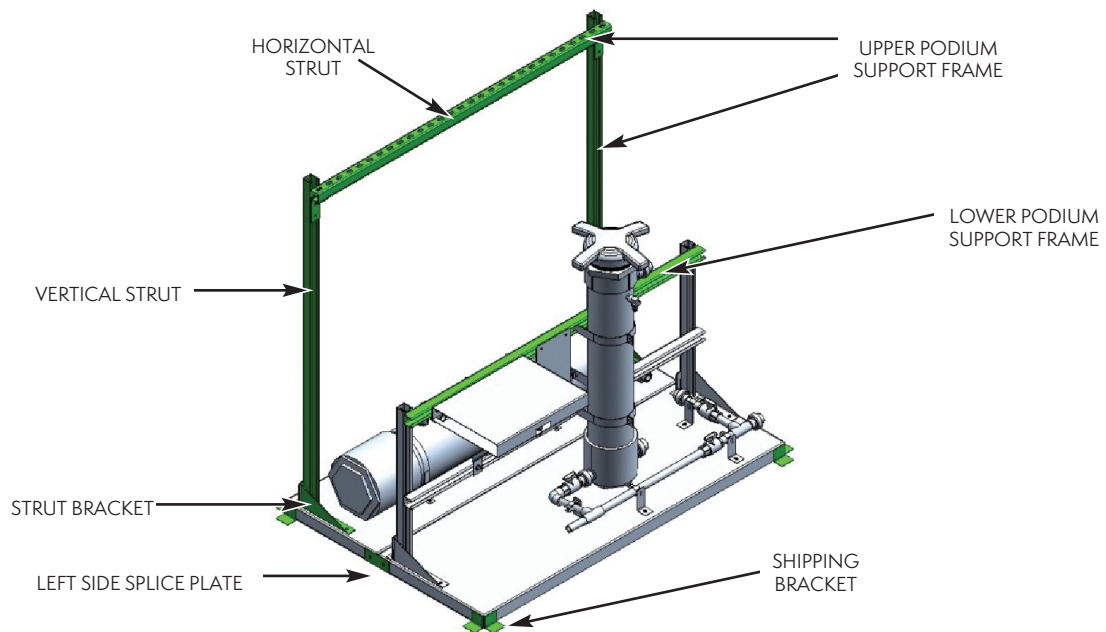

Figure 4 – Assemble **BCF-NX** and Inhibitor Storage Modules
- 2.5 Set the Inhibitor Storage Module in desired location. Secure (2) Vertical Struts to the (2) Strut Brackets using the supplied hardware. See Figures 4 and 5.
- 2.6 Attach the Horizontal Strut, open side down, to the supports using the supplied hardware to complete the Upper Podium Support Frame. See Figures 4 and 5.
- 2.7 Set the **BCF-NX** Module in front of the Inhibitor Storage Module. It will be necessary to remove shipping brackets to properly join modules. Reuse shipping bracket hardware to attach the splice plate to the left side of the Inhibitor Storage Module to the **BCF-NX** Module. See Figure 4.